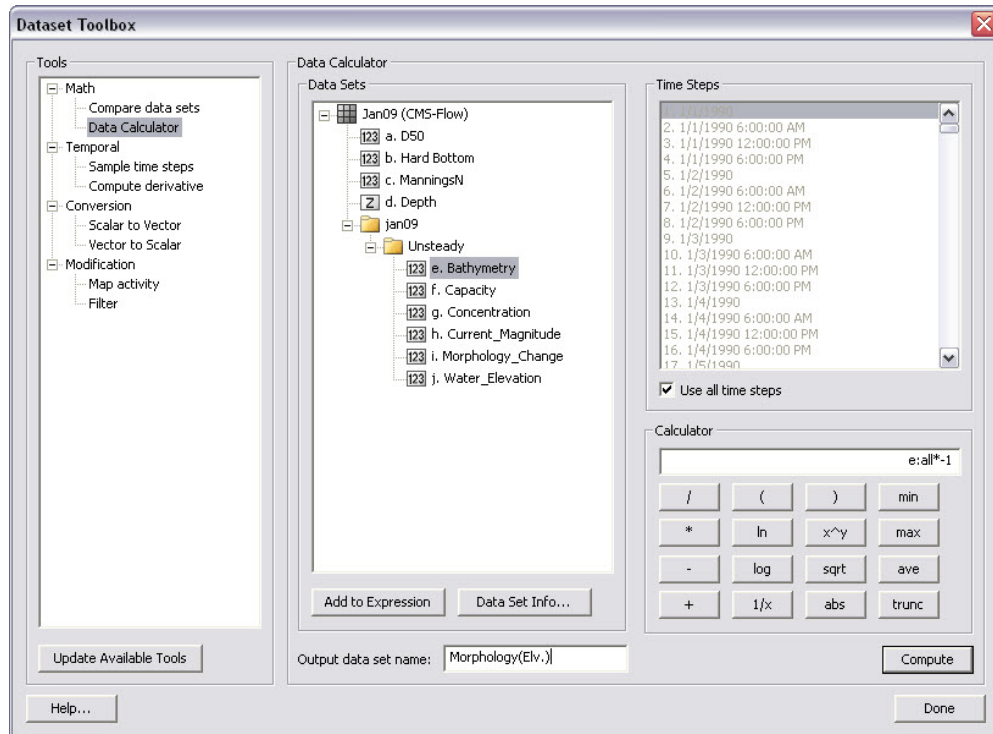
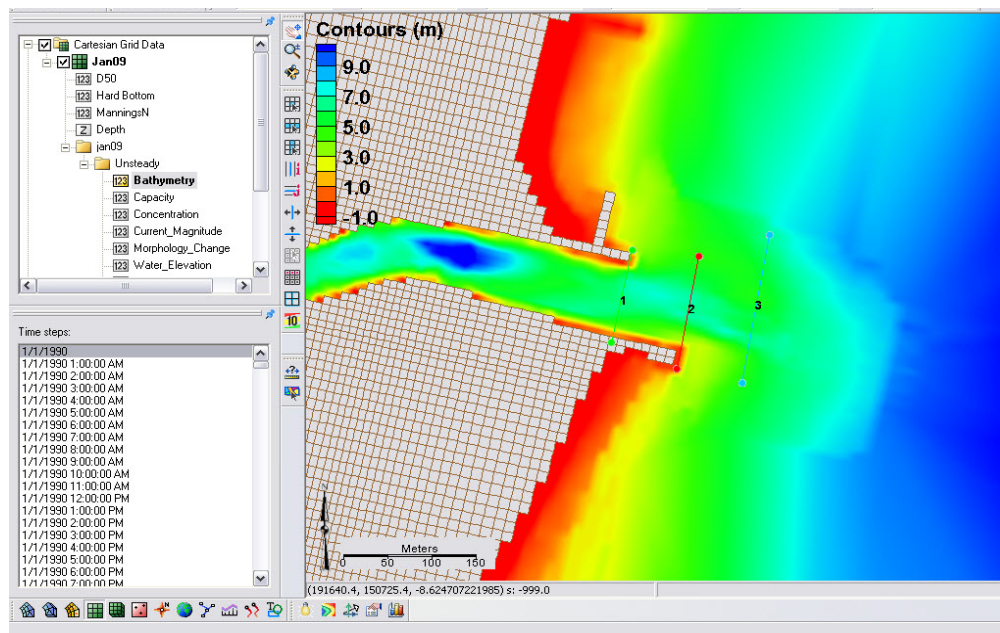

Figure 8.4.1. Data Calculator Options in the Dataset Toolbox.
Figure 8.4.2. Display of calculated bathymetry now converted to elevations. Note the legend has been modified to display the new contours.
3. In the Cartesian Grid Module, click *Data*, *Data Calculator*, and the Data Calculator should be selected in the Tools section as shown in Figure 8.4.1
4. Select the *Bathymetry* scalar (123) dataset; under *Time Steps* check the *Use all time steps* on, and double-click the *Bathymetry* (highlighted in Figure 8.4.1)
5. The line under Calculator will display “e:all”, add the multiplication symbol (*) and negative 1 (-1) as shown in Figure 8.4.1
6. Change the *Output data set name* as shown in Figure 8.4.1 so as to distinguish this dataset from the original *Bathymetry* output, click *Compute*, and after the scalar set appears in the SMS window (Figure 8.4.2), click *Done*. (Note: values for the contours may need to be adjusted to view elevation range.)